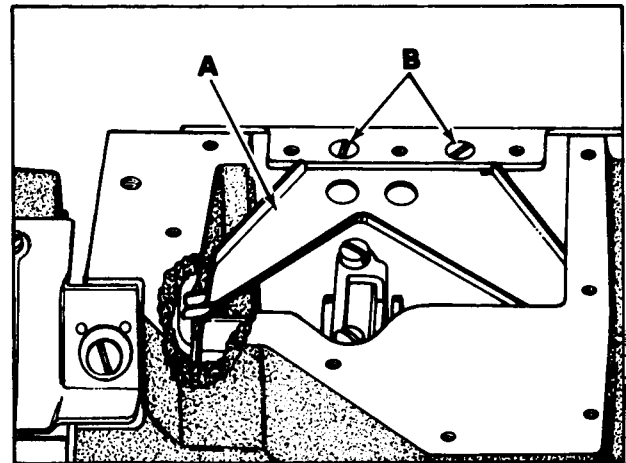

Fig 20
The oil drip plate (A, Fig. 20) located in the oil reservoir should be positioned with its tip in the recessed cut out in the bed casting, as far to the left as possible without touching. It has elongated mounting holes and can be adjusted by loosening (2) screws (B) in top of the oil reservoir back cover to position as required, retighten screws.